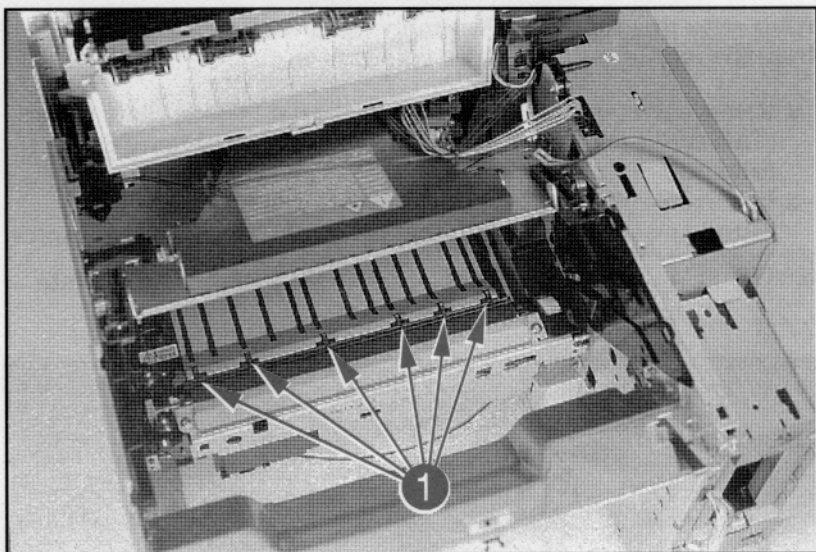

Figure 6-53 Paper Guide Rollers
3 Remove the (6) rollers from the High Voltage Contact Plate (see Figure 6-53 callout 1).